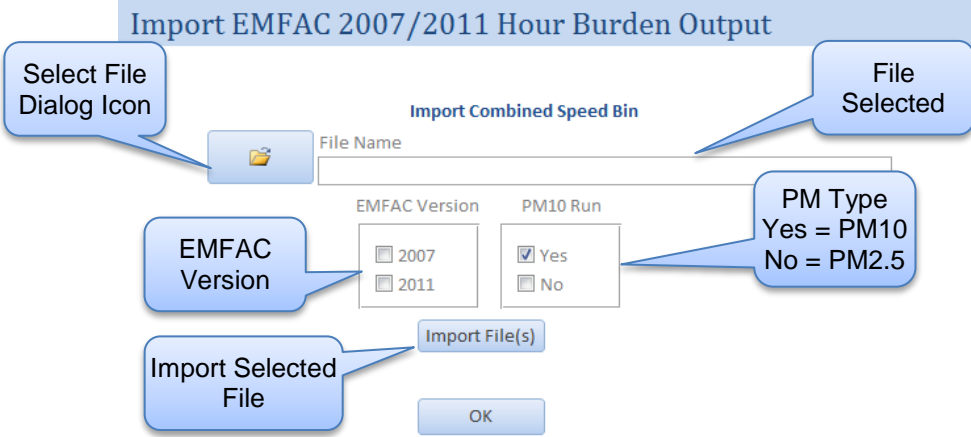

Figure 5-9 Import EMFAC Burden File
- From the Main Menu click the "Import EMFAC Burden File" button. The screen should now look like Figure 5-9.